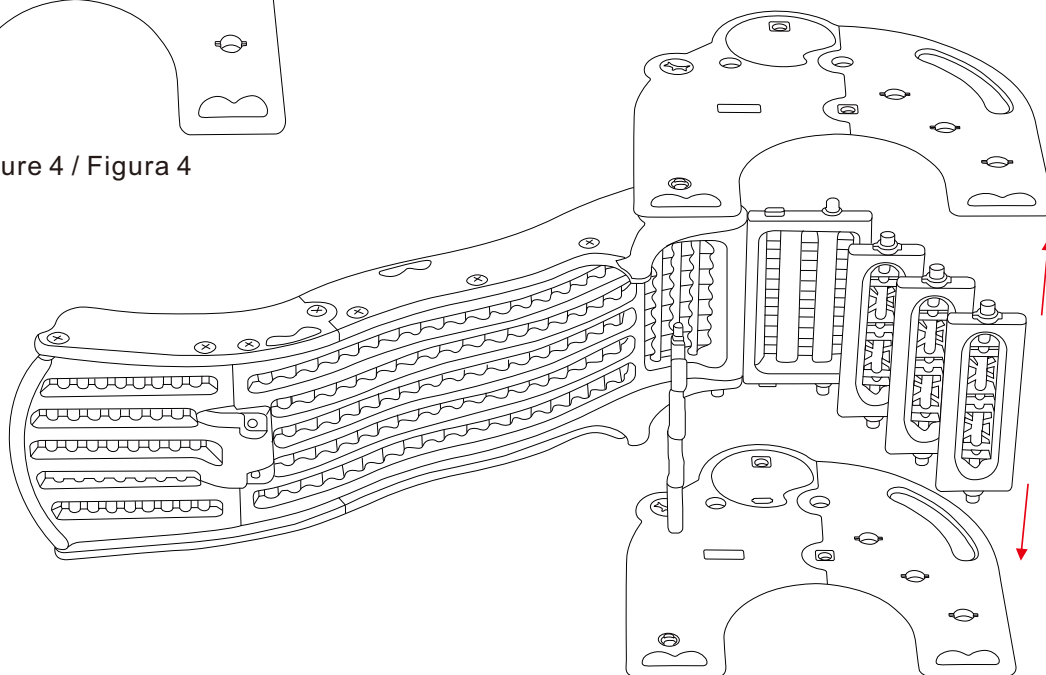

Figure 5 / Figura 5
4. Lay a main side plate on the ground, and install the slide way group in opposite position, and install the big pedal, three small pedals and the main side support frame respectively. Install the other main side board into the pedal and slideway group and tighten the nuts. Erect the slide set and tighten the cross nuts and knob cover on the other side of the plate (see Figure 5 and 6).